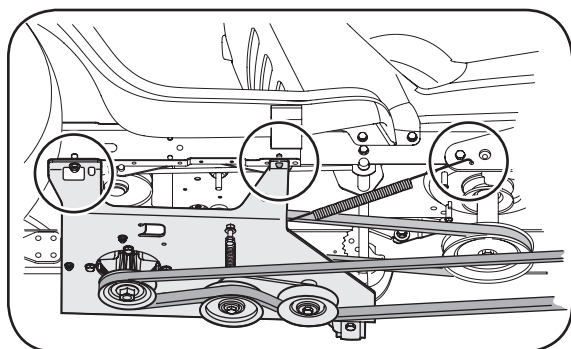

Figure 16
9. Connect the extension spring to the tractor's frame rail in the hole provided. See Figure 16.